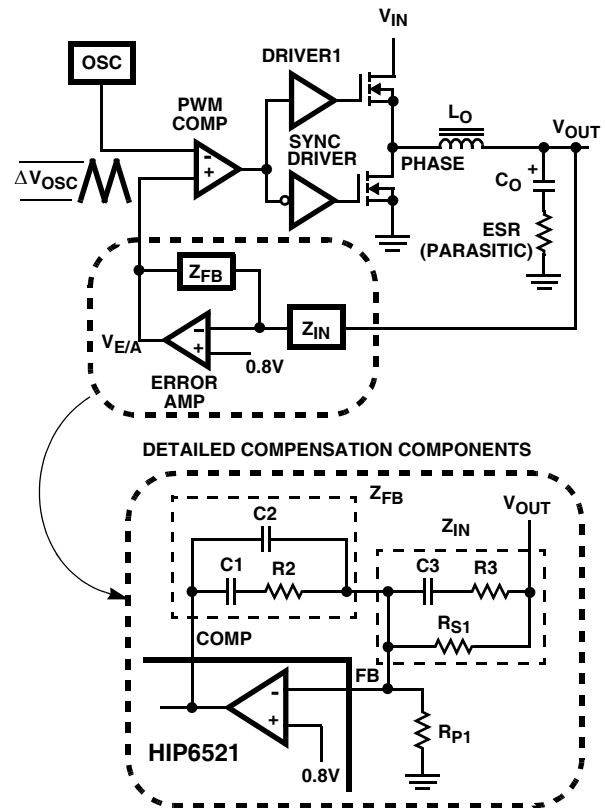
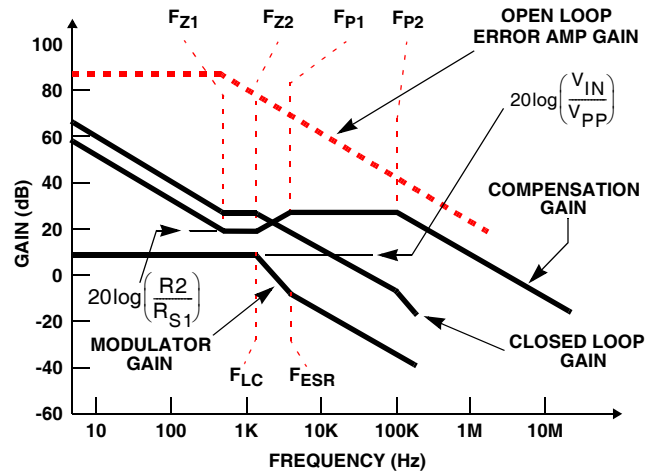

FIGURE 6. VOLTAGE-MODE BUCK CONVERTER COMPENSATION DESIGN
FIGURE 7. ASYMPTOTIC BODE PLOT OF CONVERTER GAIN
Figure 6 highlights the voltage-mode control loop for a synchronous-rectified buck converter. The output voltage (V_{OUT}) is regulated to the Reference voltage level, 0.8V. The error amplifier (Error Amp) output ($V_{E/A}$) is compared with the oscillator (OSC) triangular wave to provide a pulse-width modulated (PWM) wave with an amplitude of V_{IN} at the PHASE node. The PWM wave is smoothed by the output filter (L_O and C_O).
The compensation network consists of the error amplifier (internal to the HIP6521) and the impedance networks Z_{IN} and Z_{FB} . The goal of the compensation network is to provide a closed loop transfer function with high 0dB crossing frequency (f_{0dB}) and adequate phase margin. Phase margin is the difference between the closed loop phase at f_{0dB} and 180°. The equations below relate the compensation network's poles, zeros and gain to the components (R1, R2, R3, C1, C2, and C3) in Figure 6. Use these guidelines for locating the poles and zeros of the compensation network:
Figure 7 shows an asymptotic plot of the DC/DC converter's gain vs. frequency. The actual Modulator Gain has a high gain peak dependent on the quality factor (Q) of the output filter, which is not shown in Figure 6. Using the above guidelines should yield a Compensation Gain similar to the curve plotted. The open loop error amplifier gain bounds the compensation gain. Check the compensation gain at F_{P2} with the capabilities of the error amplifier. The Closed Loop Gain is constructed on the log-log graph of Figure 10 by adding the Modulator Gain (in dB) to the Compensation Gain (in dB). This is equivalent to multiplying the modulator transfer function to the compensation transfer function and plotting the gain.